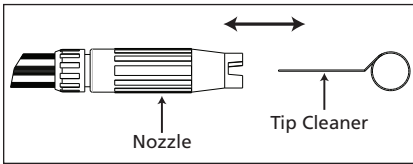

Figure 7
- Using the included tip cleaner, or an un-folded paper clip, insert wire into the nozzle hole and move back and forth until debris is dislodged (refer to Figure 7).